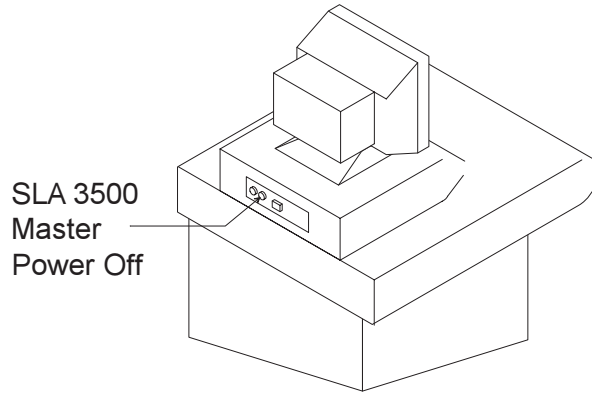

Figure 18. SLA 3500 Master Power Off Button
- The SLA 3500 master power shut-off button is located behind the control module (Figure 18)